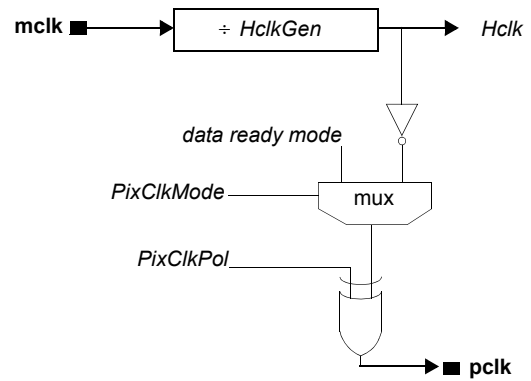

Figure 20. Clock Generation Module
The KAC-9647 contains a clock generation module (figure 20) that will create three clocks as follows:
**pclk** the pixel clock. This is the external pixel clock that appears at the digital video port. By default **pclk** is free running and it's frequency is always equal to *Hclk* (see figure 20).